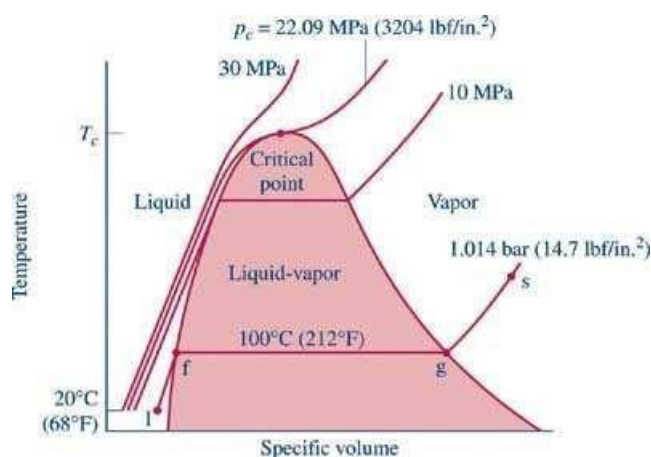

Figure 3.2-2 Sketch of T - v diagram for water
We will consider a phase change of 1 kg of liquid water contained within a piston-cylinder assembly as shown in Figure 3.2-1a. The water is at 20°C and 1.014 bar (or 1 atm) as indicated by point (1) on Figure 3.2-2.
with a slight increase in specific volume until the system reaches point (f). This is the saturated liquid state corresponding to 1.014 bar. The saturation temperature for water at 1.014 bar is 100°C. The liquid states along the line segment 1-f are called *subcooled* or *compressed* liquid states. When the system is at the saturated liquid state (point f in Figure 3.2-2) any additional heat will cause the liquid to evaporate at constant pressure as shown in Figure 3.2-1b. When a mixture of liquid and vapor exists in equilibrium, the liquid phase is a saturated liquid and the vapor phase is a saturated vapor.
Liquid water continues to evaporate with additional heat until it becomes all saturated vapor at point (g). Any further heating will cause an increase in both temperature and specific volume and the saturated vapor becomes superheated vapor denoted by point (s) in Figure 3.2-2. For a two-phase liquid-vapor mixture, the quality x is defined as the mass fraction of vapor in the mixture